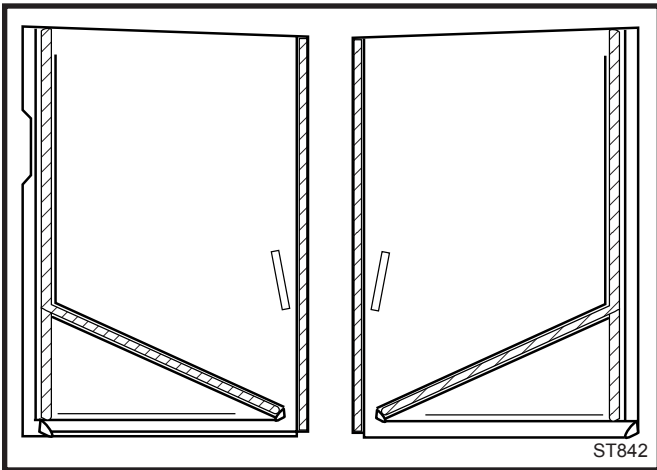

Fig. 9 Inner side plate cement locations. Refer also to Figures 10 and 11.
16. Cement the channels in the inner side plates as shown in Figure 9. Place the bottom of each inner side into its cement channel in the stove bottom at a 45° angle and swing the top against the edges of the stove back and front insuring the cement channels in the inner sides encompass the ribs of the stove back and front. Tie a rope or strap around the inner sides, back and front plates to hold the assembly together. Remove the wood bridge.